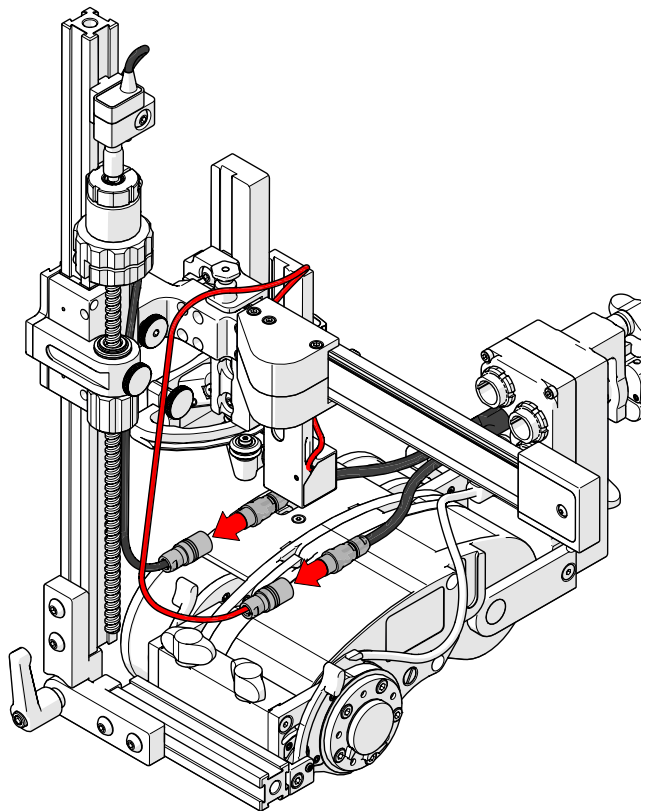

Fig. 194 - Connect encoder cables to 3-axis encoder cable
12. Using the cable clips, route the encoder cable from the slider pps to the 3-axis encoder cable (Fig. 194).
13. Using the cable clips, route the encoder cable from the probe holder to the 3-axis encoder cable (Fig. 194).
14. Plug the encoder cables into the 3-axis encoder cable connectors (Fig. 194).